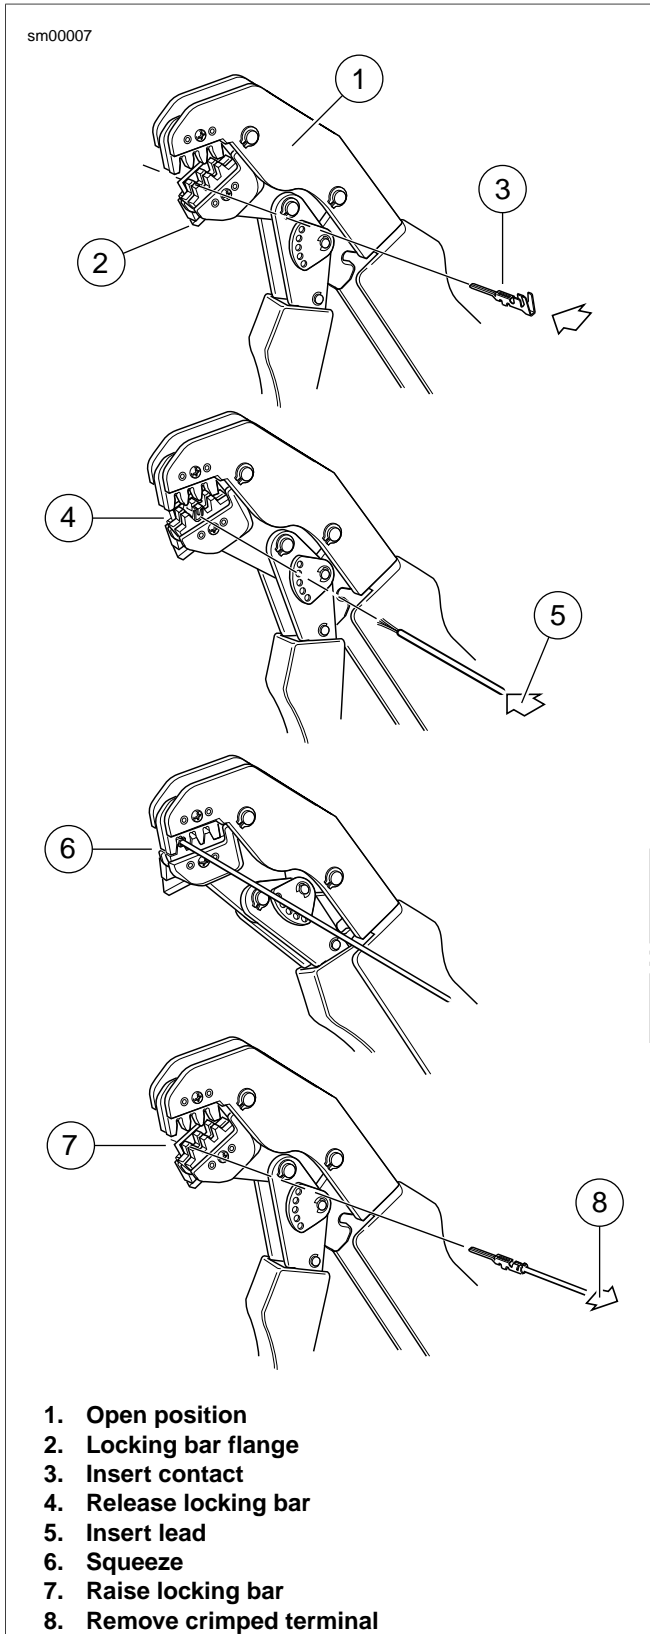

Figure A-6. AMP Multilock Connector: Terminal Crimping Procedure
- See Figure A-6. Squeeze the handles to cycle the AMP MULTILOCK CRIMPER (Part No. HD-41609) to the fully open position (1).
- Raise locking bar by pushing up on bottom flange (2).
- See Figure A-6. With the insulation crimp tail facing upward, insert terminal (pin or socket) (3) through the locking bar, so that the closed side of the terminal rests on the nest of the crimp tool.
- Release locking bar to lock position of contact (4). When correctly positioned, the locking bar fits snugly in the space at the front of the core crimp tails.
- Insert stripped end of lead (5) until ends make contact with locking bar.
- Raise up locking bar (7) and remove crimped terminal.